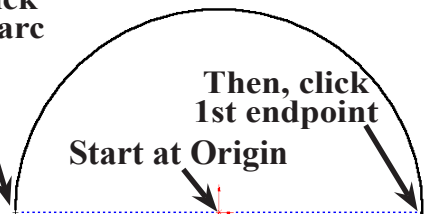

**Fig. 1**
Step 2. Click **Right Plane**  in the Feature Manager and click **Sketch**  from the Content toolbar, **Fig. 1**.